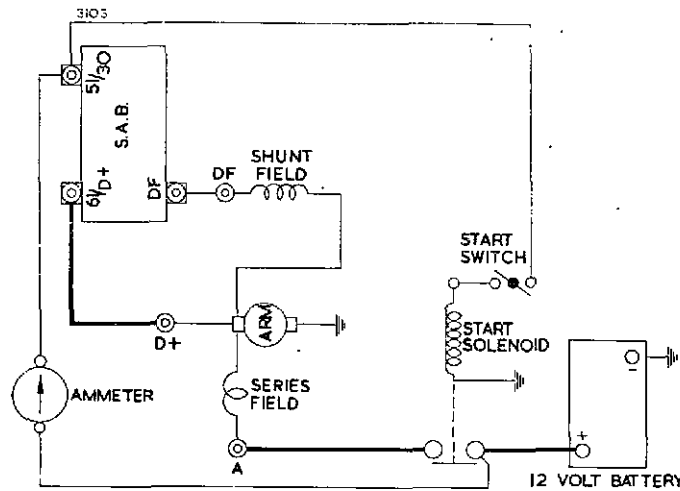

Fig. 18
70. Electric starting equipment (Fig. 18)